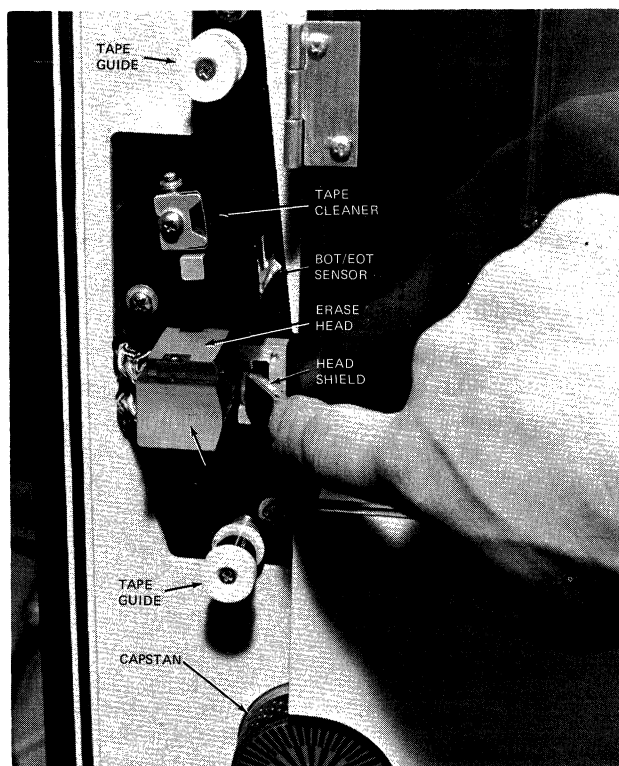

Figure 14-7. Tape Head Assembly
2. Remove both head covers (see Figure 14-7).
3. Use a lint-free cloth moistened with Honeywell Magnetic Tape Cleaner (Part No. 9704-2048-001) or equivalent solution (such as Freon "TF" solvent) and clean all exposed surfaces of the read/write, head, tape cleaner, erase head, and tape guides shown in Figure 14-7. Cotton swabs or a ½-inch acid-free brush dipped in these cleaner solvents can be used to remove stubborn oxide buildup in the slotted areas of the tape head as well as on the rubber surface of the capstan.